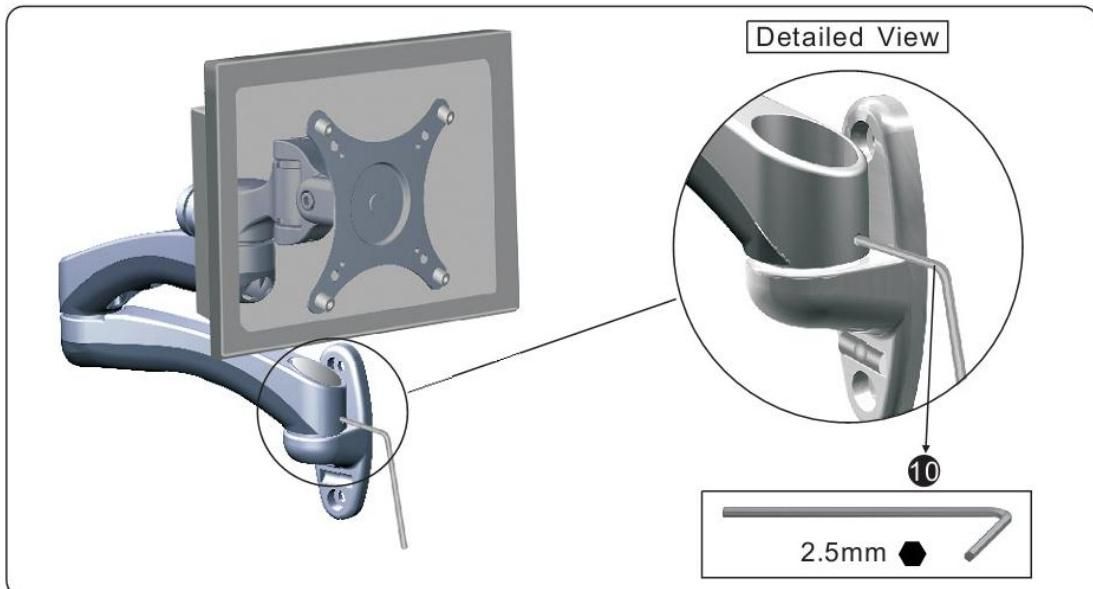

Figure 3-2
2. Once the Wall Mount LCD Arm Assembly is in desired position, tighten with Hex Grub Screw using the Hex Allen Wrench 2.5mm **(10)** so the assembly is firmly in place (**See Figure 3-2**).